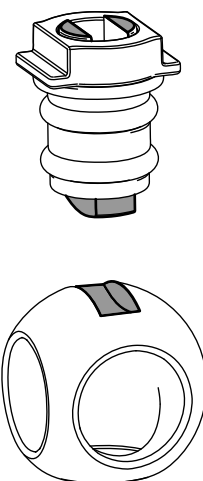

Figure 126
6. Insert the ball into the valve body (Figure 126).
**Note:** The valve stem should fit inside the ball drive slot. If the valve stem does not fit, adjust the position of the ball (Figure 126).